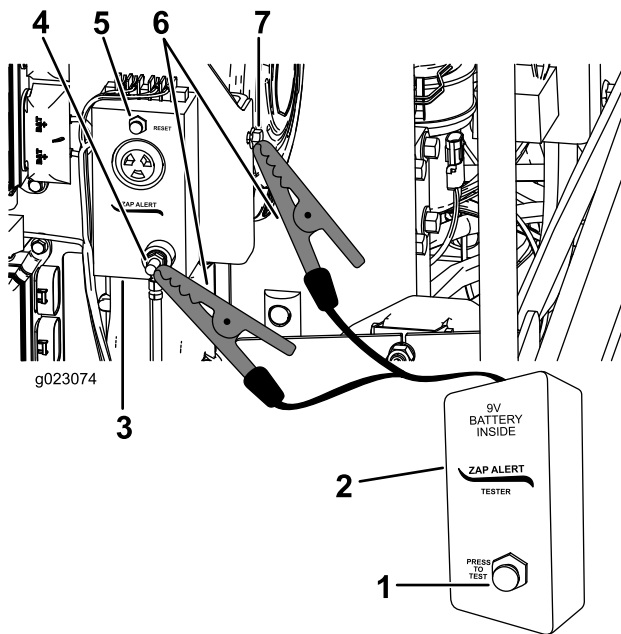

Figure 30
3. Connect an alligator clip from the Zap-Alert tester to the grounding stud on the Zap-Alert system (Figure 30).
5. Press the TEST button on the Zap-Alert tester (Figure 30).
6. Press the ZAP-ALERT RESET button to stop the alarm (Figure 30).